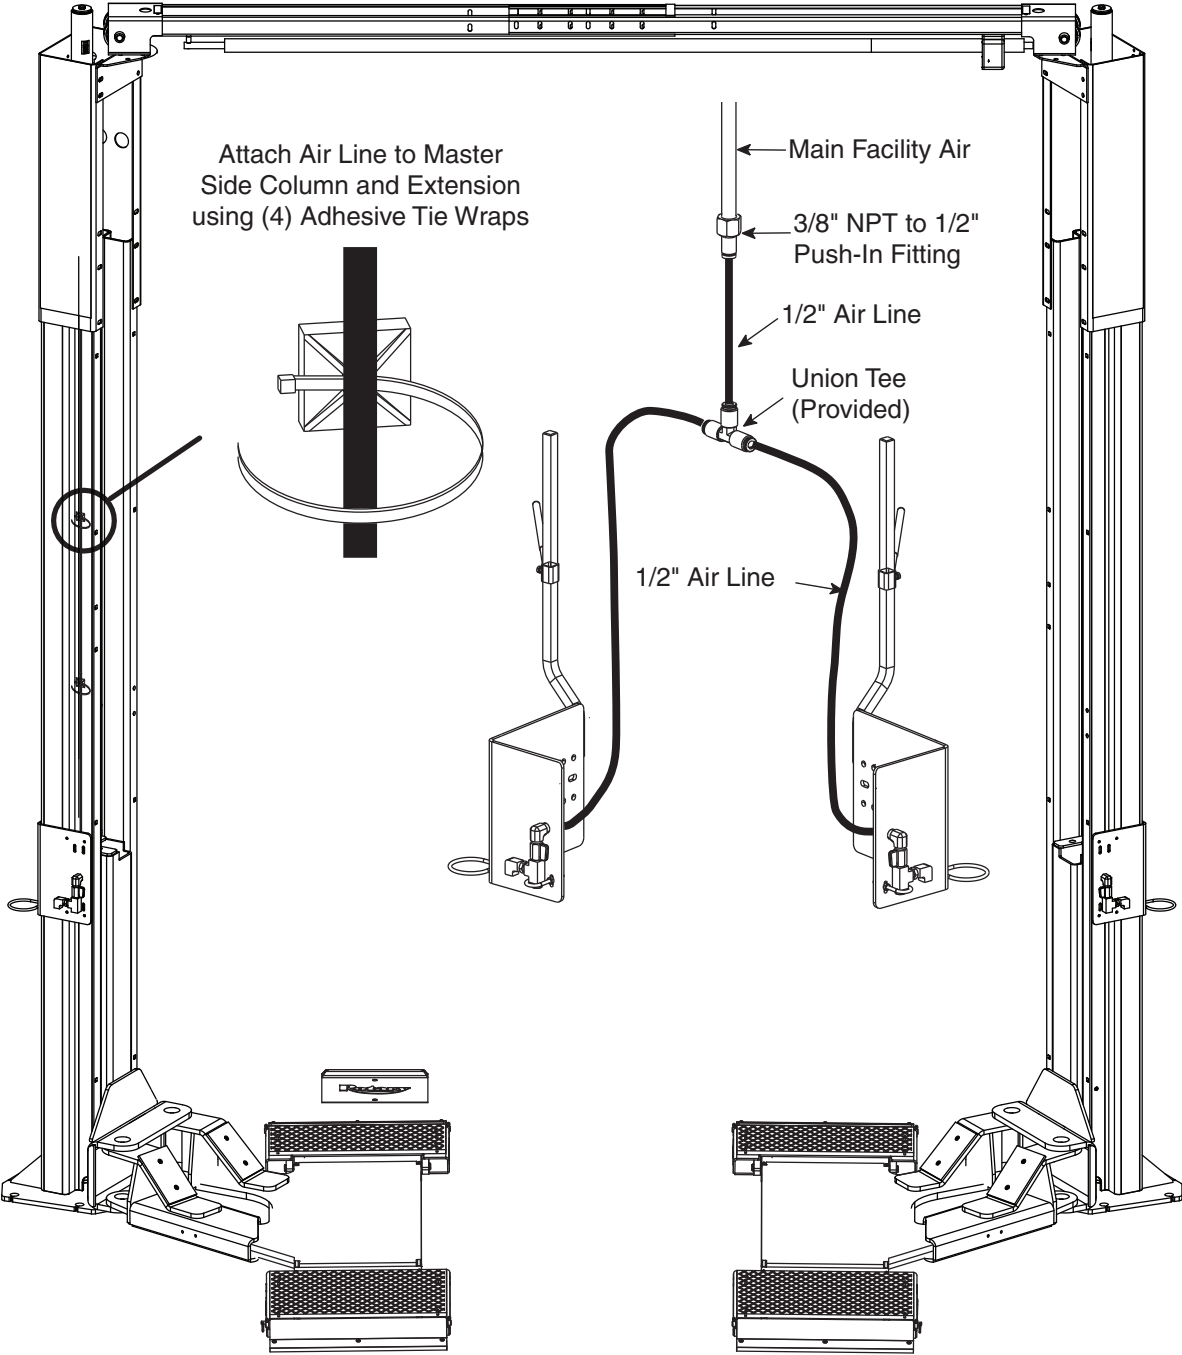

Fig. 28
33. Air Line Attachment: Route 1/2" air lines to air brackets and insert into 90° elbows in the back of the bulk heads, Fig. 28. Air lines should be run along the same route as the hydraulic hose on passenger side of lift and in overhead and connect to the union tee provided at top of either column, whichever is closer to the facility air.
43. Web covering and wire trough placement Fig. 28: Start by wire tying all the wires and hoses neatly and out of the way of the cables. Take one of the wire troughs and attach it to one of the control panels with two #8-32NC x 5/8" Lg. PHTS. Snap the front of the wire trough into the column. Next slide the top web cover up into the column extension and then down into the wire trough. NOTE: Align slot in web cover with hose clamps and bolts. Repeat for other column. Adjust covers accordingly to make sure hoses and wires are covered.